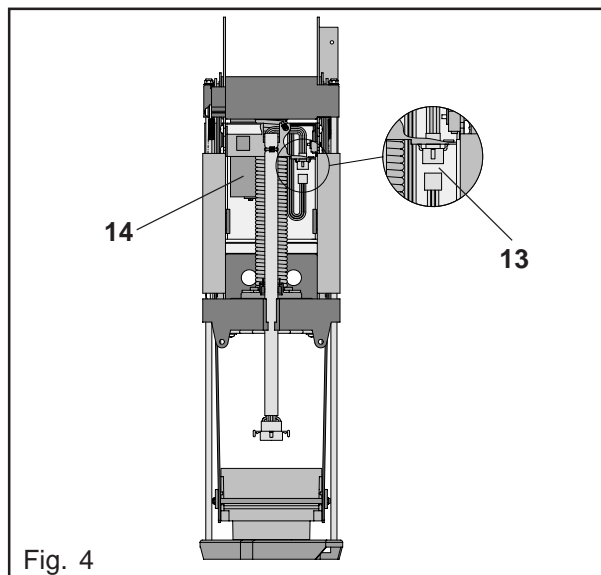

Fig. 4
- Connect the plug (13) of the actuator motor (14) to the socket. The cable harness must be accessible. (Fig. 4)